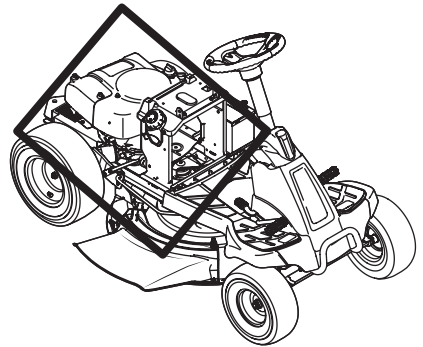

Figure 22
- Clean under the hood. Exhaust manifold, around fuses, all wiring and harnesses, muffler pipe, muffler shield, engine intake screens and cooling fins, etc (Figure 22).